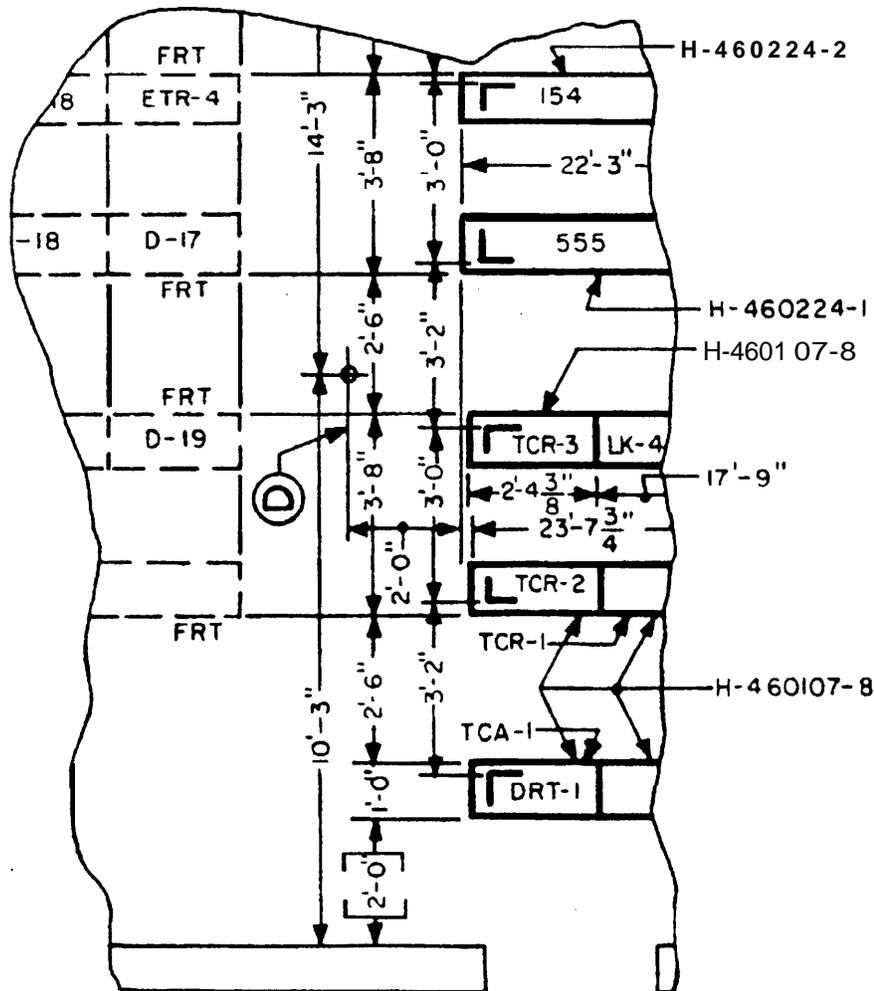

Figure 1. Portion of F Drawing Showing Location of Floor Angles.
3.03 Remove all angles, braces, etc, from their boxes and place them in proper position on the floor. Figures 1 and 2 show the method of locating floor angles. To determine the approximate locations and lengths of the wall angles, channel braces, bay uprights, and frame uprights used within the office, the installer must lay out